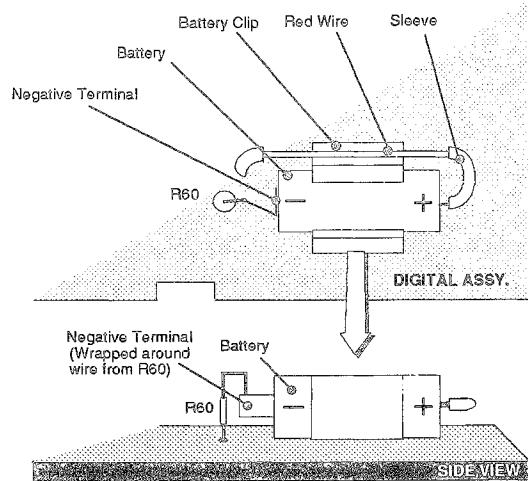

FIG. 4.1 BATTERY REPLACEMENT
- f. Remove battery (*refer to Fig. 4.1*).